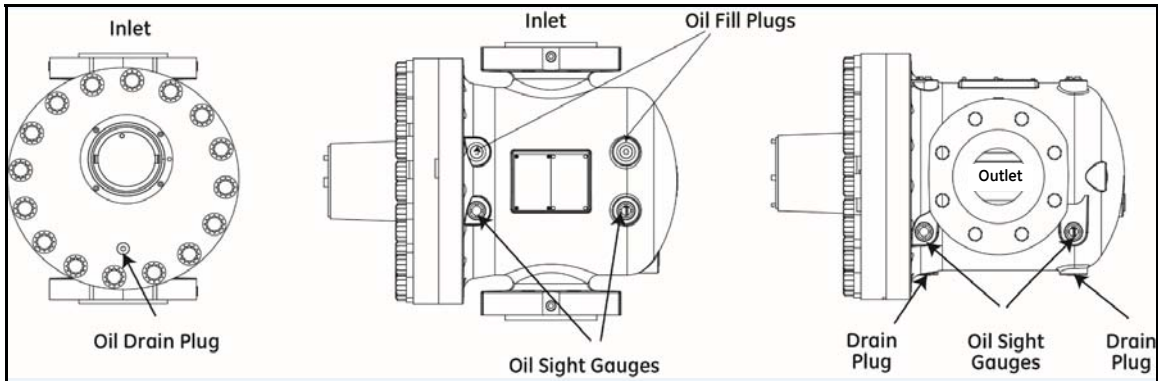

Figure 8. Sight Glass & Drain Plug Locations.
28. Remove the oil fill plug from the side of the meter housing using a ¼" Allen wrench. While visually monitoring the oil sight gauge, slowly add oil to the housing. Fill to the center of the sight gauge, being careful not to overfill. Refer to "INSPECTION AND MAINTENANCE, Lubrication System." Reference Figure 8 for sight glass and drain plug locations.